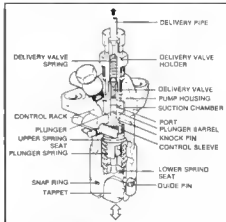

FIGURE 3-52. SINGLE INJECTION PUMP ASSEMBLY
- 1 Remove one high pressure line (both ends), and the corresponding delivery valve holder, spring, volume reducer, and delivery valve. Figure 3-52. Leave gasket and seal in pump.